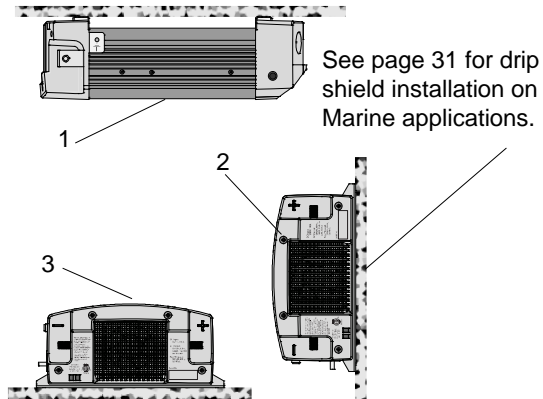

Figure 2 Approved Mounting Orientations
2. Select an appropriate mounting location and orientation. (See Figure 2 below.) To meet regulatory requirements, for use in on-land applications, the Freedom HF must be mounted in one of the following orientations: